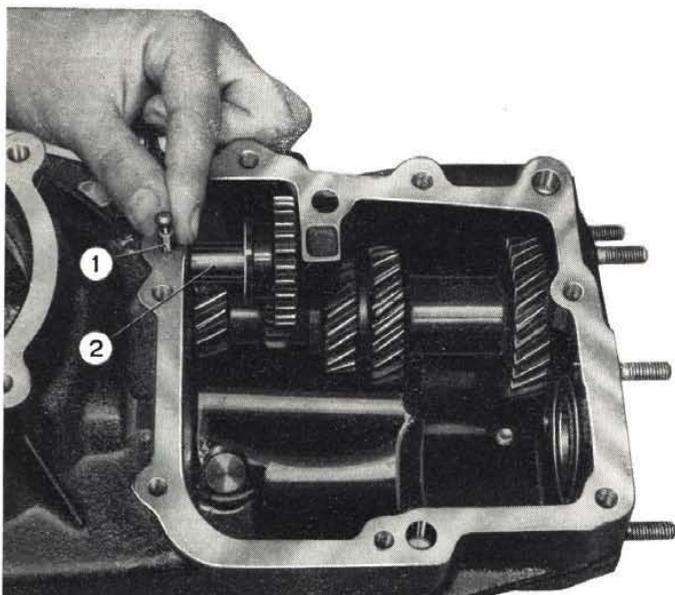

Fig. 178 - Fitting the reverse shaft and gear lock pin.
- install the reverse shaft and gear and secure with lock pin (fig. 178);